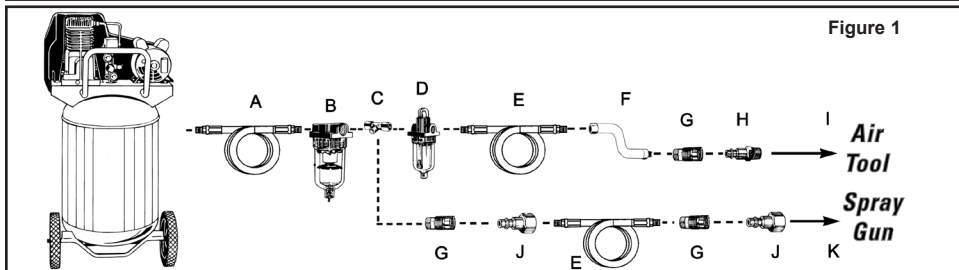

Figure 1
- Connect the tool to the air hose quick coupler. **NOTE: It is recommended that a whip hose with a swivel (P012-079SP - not included) be used to prevent twisting, kinking, and excessive wear to the air hose (see figure 1 for recommended connections).**